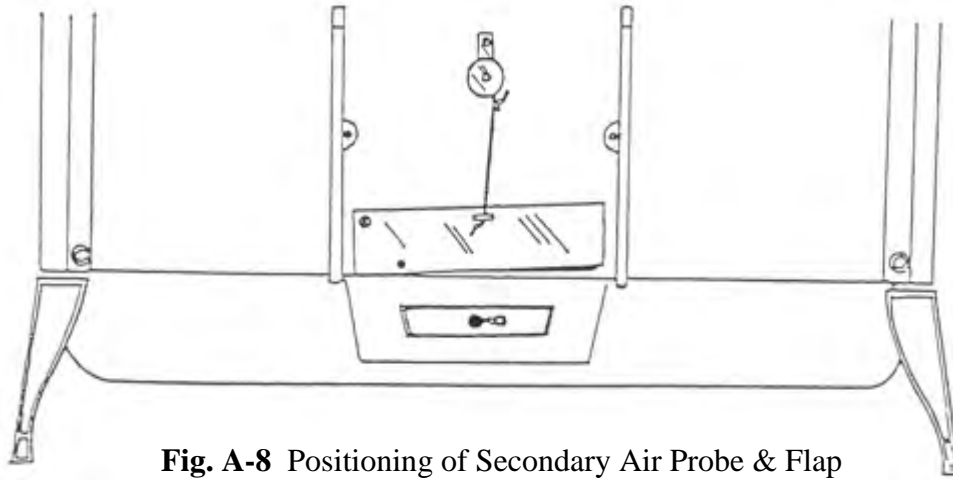

Fig. A-8 Positioning of Secondary Air Probe & Flap
STEP 31 Cont: o'clock positions respectively and re-tighten the lock nuts. Insert the double bent end of the secondary air link through the hole in the tab end of the thermostat coil. Insert the single bent end of the secondary air link through the hole in the tab on the secondary air flap. Insert the secondary air probe through the drilling in the stove back and secure with 1 each, Phillips pan head machine screw (10-20x 1/4"). Secure the secondary air flap to the stove back with 1 each, Phillips pan head machine screw (10-24x 1/4") and 1 each, shim ring. Tighten the screw securing the air flap until snug and back off 1/4 turn. Insure that the secondary air flap moves up and down freely and that the flap rests at or near the closed position. See figure A-8.